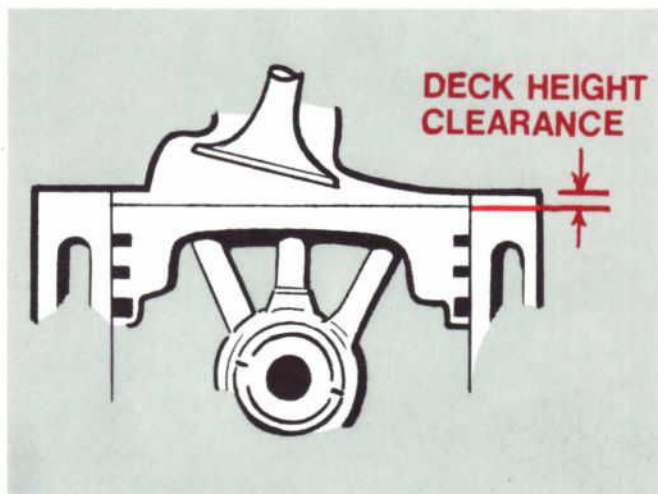

Figure 4—Measuring Deck Height Clearance
(1) Every engine to be used in competition should undergo a comprehensive check of clearances, balancing, Magnafluxing and a "boilout" in degunking fluid. For "street" only use, it's not a bad idea either; but for "strip" use it's mandatory. The stress and strain created within an engine while popping the clutch off the line at the strip, and running through the gears around 7000 rpm is something else again. The best insurance for peak performance and durability under these conditions is to clean, check and blueprint the engine.
(2) If you have a used block, boil it out and have it Magnafluxed. Take a close look at the webbing, main bearing caps, cap bolts, and the cylinder head area around the head bolts for stress cracks. Either eyeball it very carefully, or use one of the spray-on crack finders. Nicks and scratches should be smoothed from all machined surfaces. Check for flatness with a steel straight-edge. Grind away any casting flashings, clean all oil galleys with a wire brush and check tapped holes. Balance parts and assemblies. The specification chart on page 6 lists several critical balance weights. If the block is new, you can skip the boiling operation, but not the Magnafluxing. One last thing. Check the block for trueness in the bottom end. If it's out of specifications, have it line bored. Remember, this is a racing engine and everything about the crankshaft centerline must be right on the money.
(3) Install special 12.5:1 high compression "eyebrow" pistons (Ford Part No. C8AX-6110-A with Dyke ring), stock cylinder heads (Ford Part No. C5AZ-6049-C) and 0.015" thick steel shim head gaskets (Ford Part No. C3AZ-6051-B) to obtain a compression ratio of 12.5:1. Piston to deck height (Fig. 4) should be 0.025" with a 90 cc. cylinder head volume. This combination is acceptable for the street and strip.